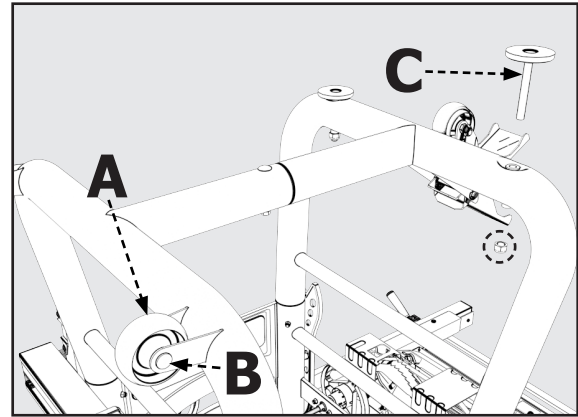
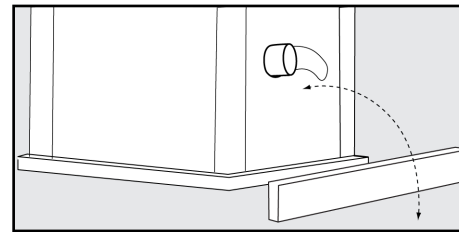

FIGURE 2
FIGURE 3
1. Attach the two fixed wheels (A) to the two left leg, opposite the pivot caster, using the M8 X 53 mm axle pin as in Figure 2.
2. Screw the adjustable feet (C) into the threaded inserts in the right leg, next to the pivot caster.
3. Lay a scrap piece of 2x4 in back of the saw, as shown in Figure 3, to prevent damage to the dust chute when righting the saw.
5. Modify the two Adjustable Feet (C) by screwing them in and out of the leg. The feet may be adjusted to level the saw and locked in place by tightening the M12 nut on the top. See Figure 2.